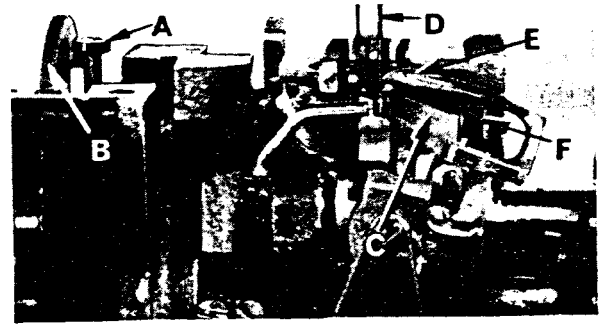

Fig. 10
The differential feed ratio is set by loosening screw (A, Fig. 10) and moving the selector slide (B) to the desired position. The screw and selector slide are accessible through the top of the cloth plate on the left side. Moving the differential feed selector slide (B) toward the front increases the amount of differential and moving it back decreases the differential feed. Retighten screw.
Set the rear needle guard (C, Fig. 10) horizontally so that it does not quite contact the rear of the right needle (D) when at its most forward point of travel. A clearance of .005 inch (.127 mm) is permissible. It should be set as low as possible, yet have its vertical face approach within about 3/64 inch (1.19 mm) of the needle, until the point of the looper (E), moving to the left, is even with the needle. To move needle guard merely loosen screw (F), move needle guard as required, and retighten screw.